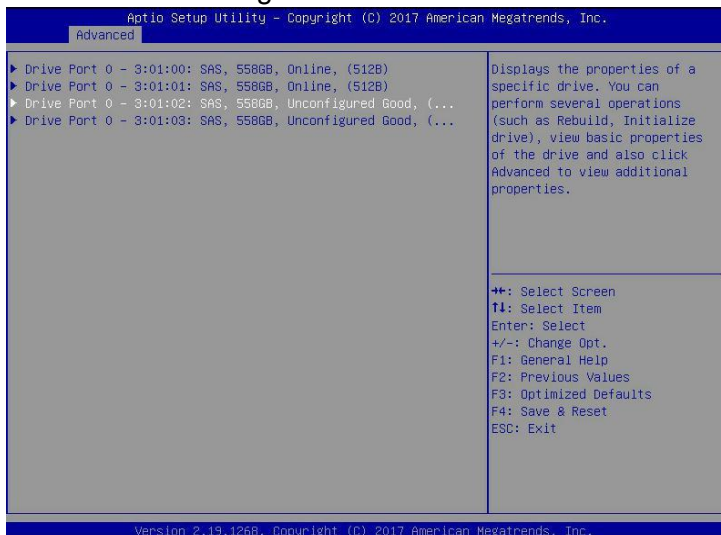

Figure 6-72
b) Enter the interface shown in Figure 6-72, select the disk to be initialized, and press Enter.
✧ Figure 6-72 Disk Management Interface